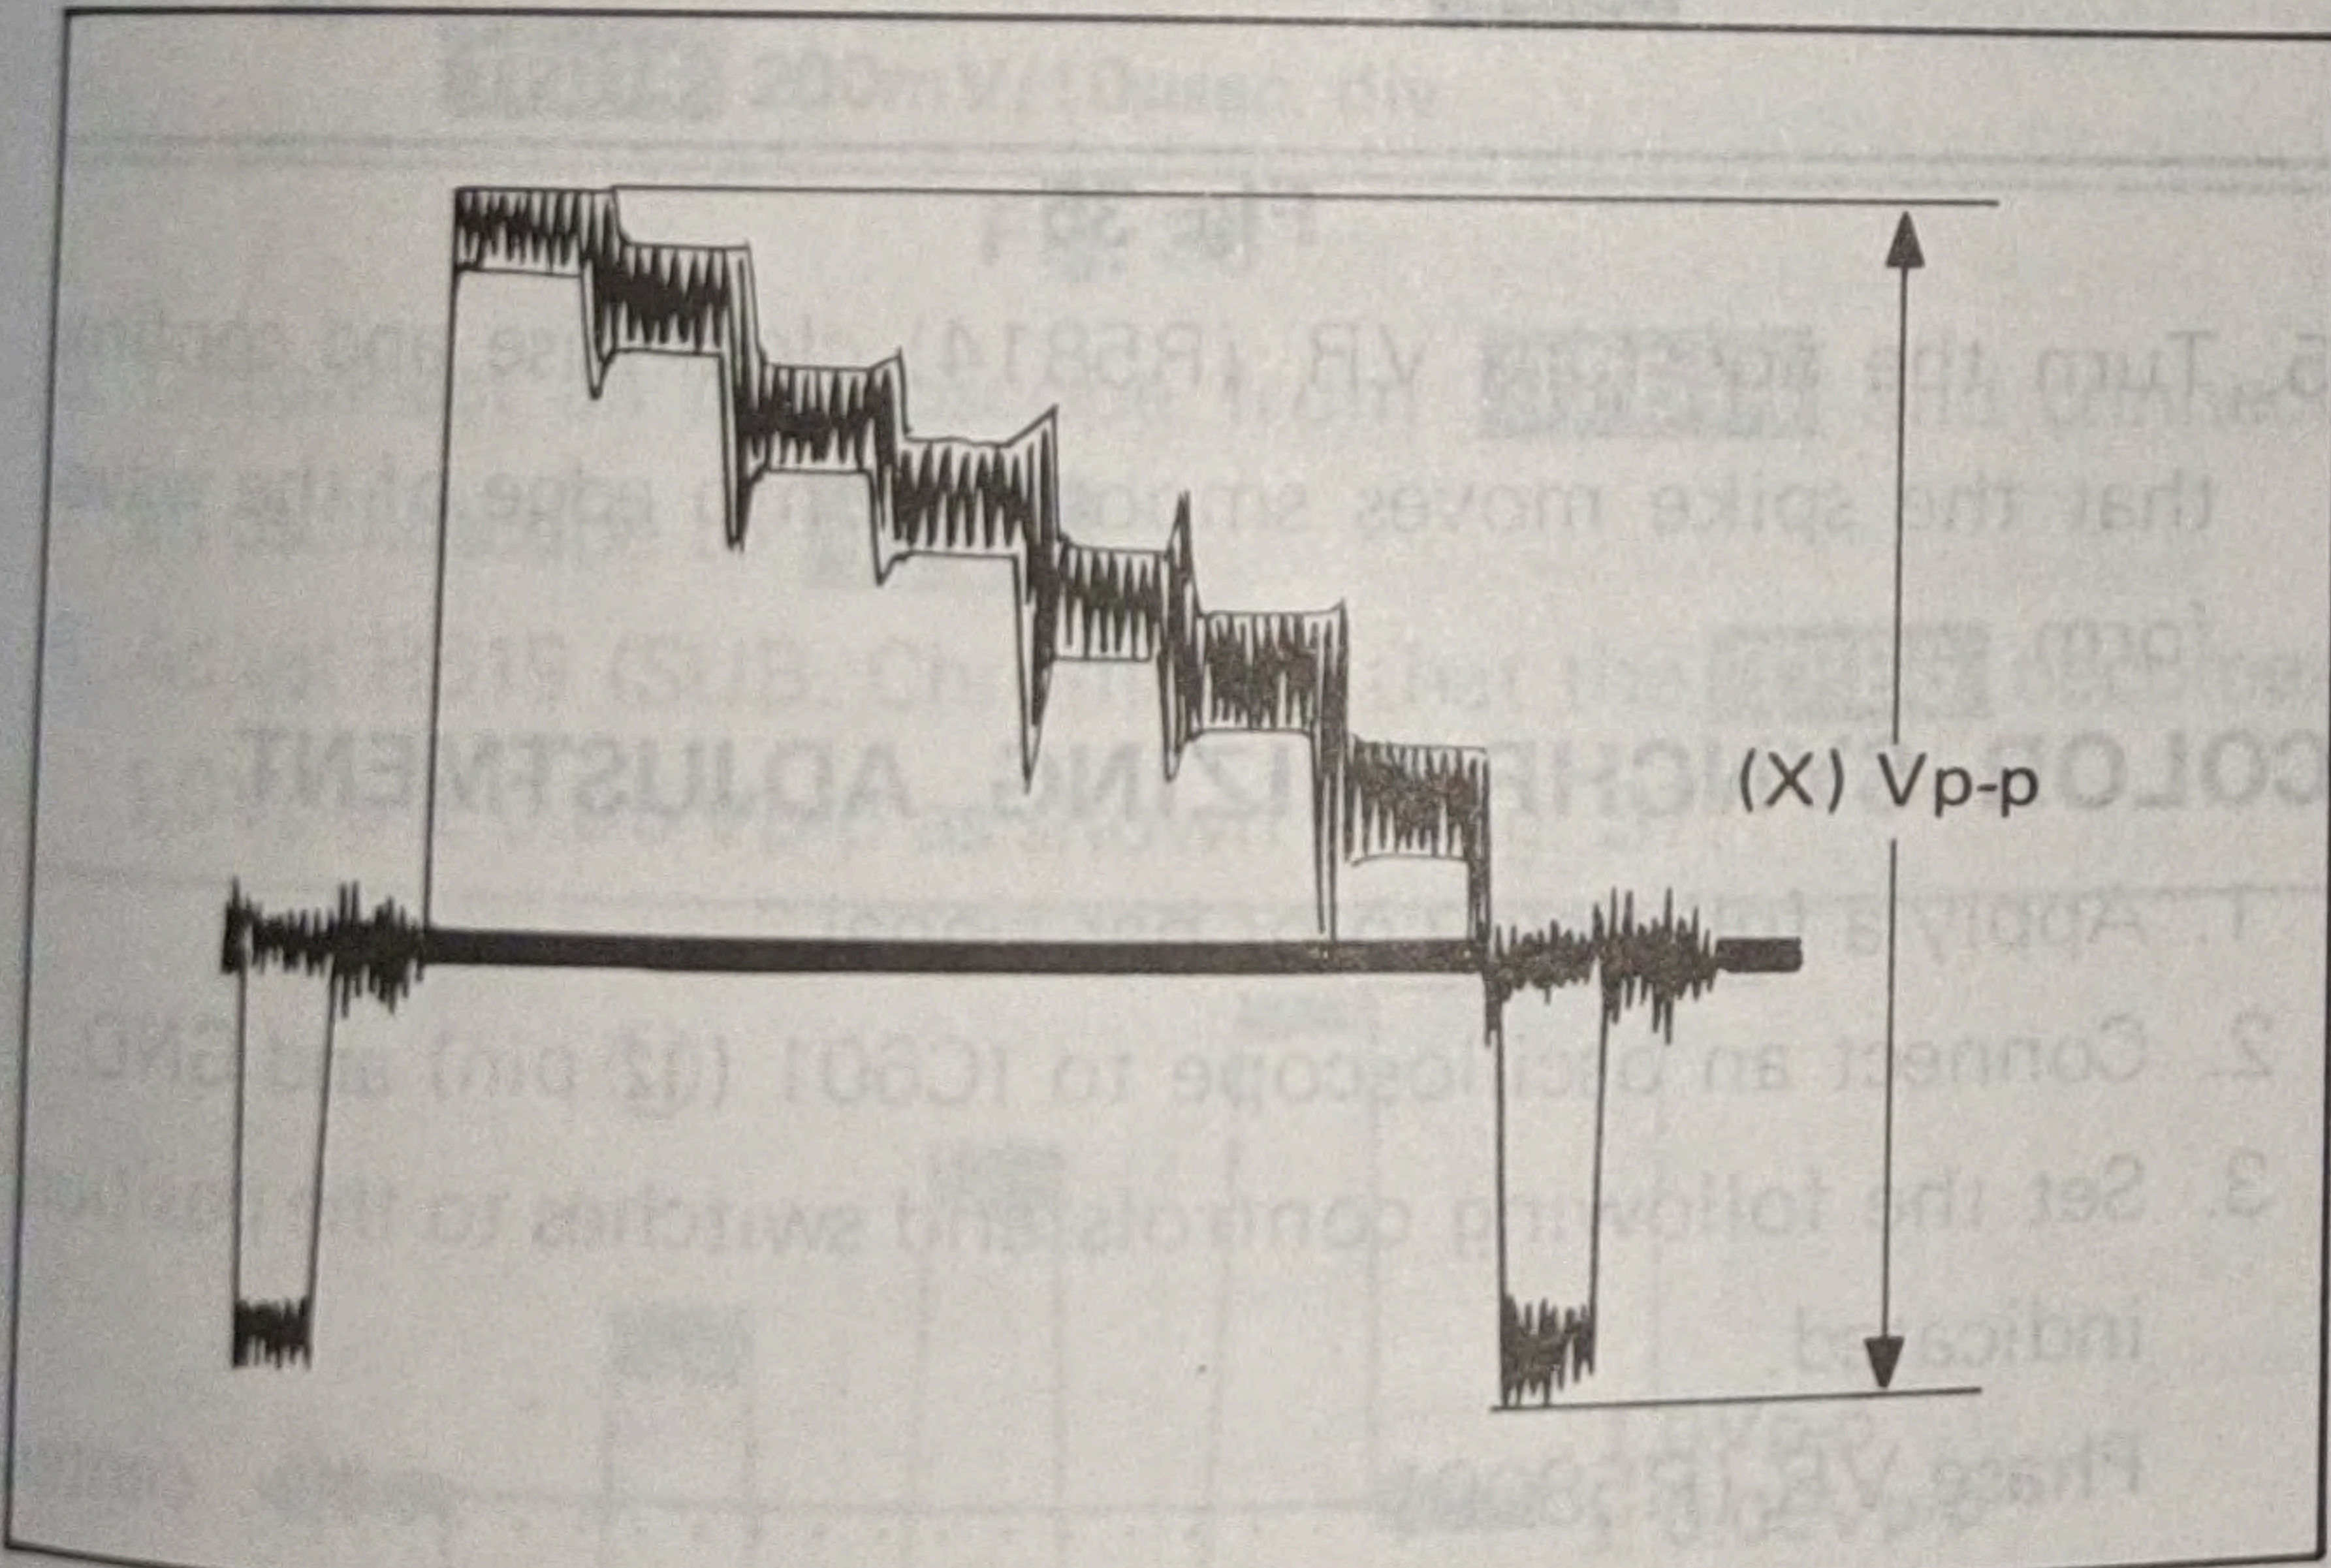

Fig. 29
4. Then keep record of the (X)Vp-p on the waveform as shown in Fig. 29.